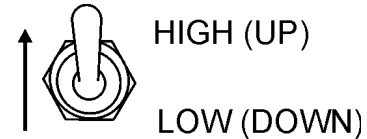

Figure 52. Engine Speed Switch (High)
3. Set the engine speed switch (Figure 52) to the "**High**" position.